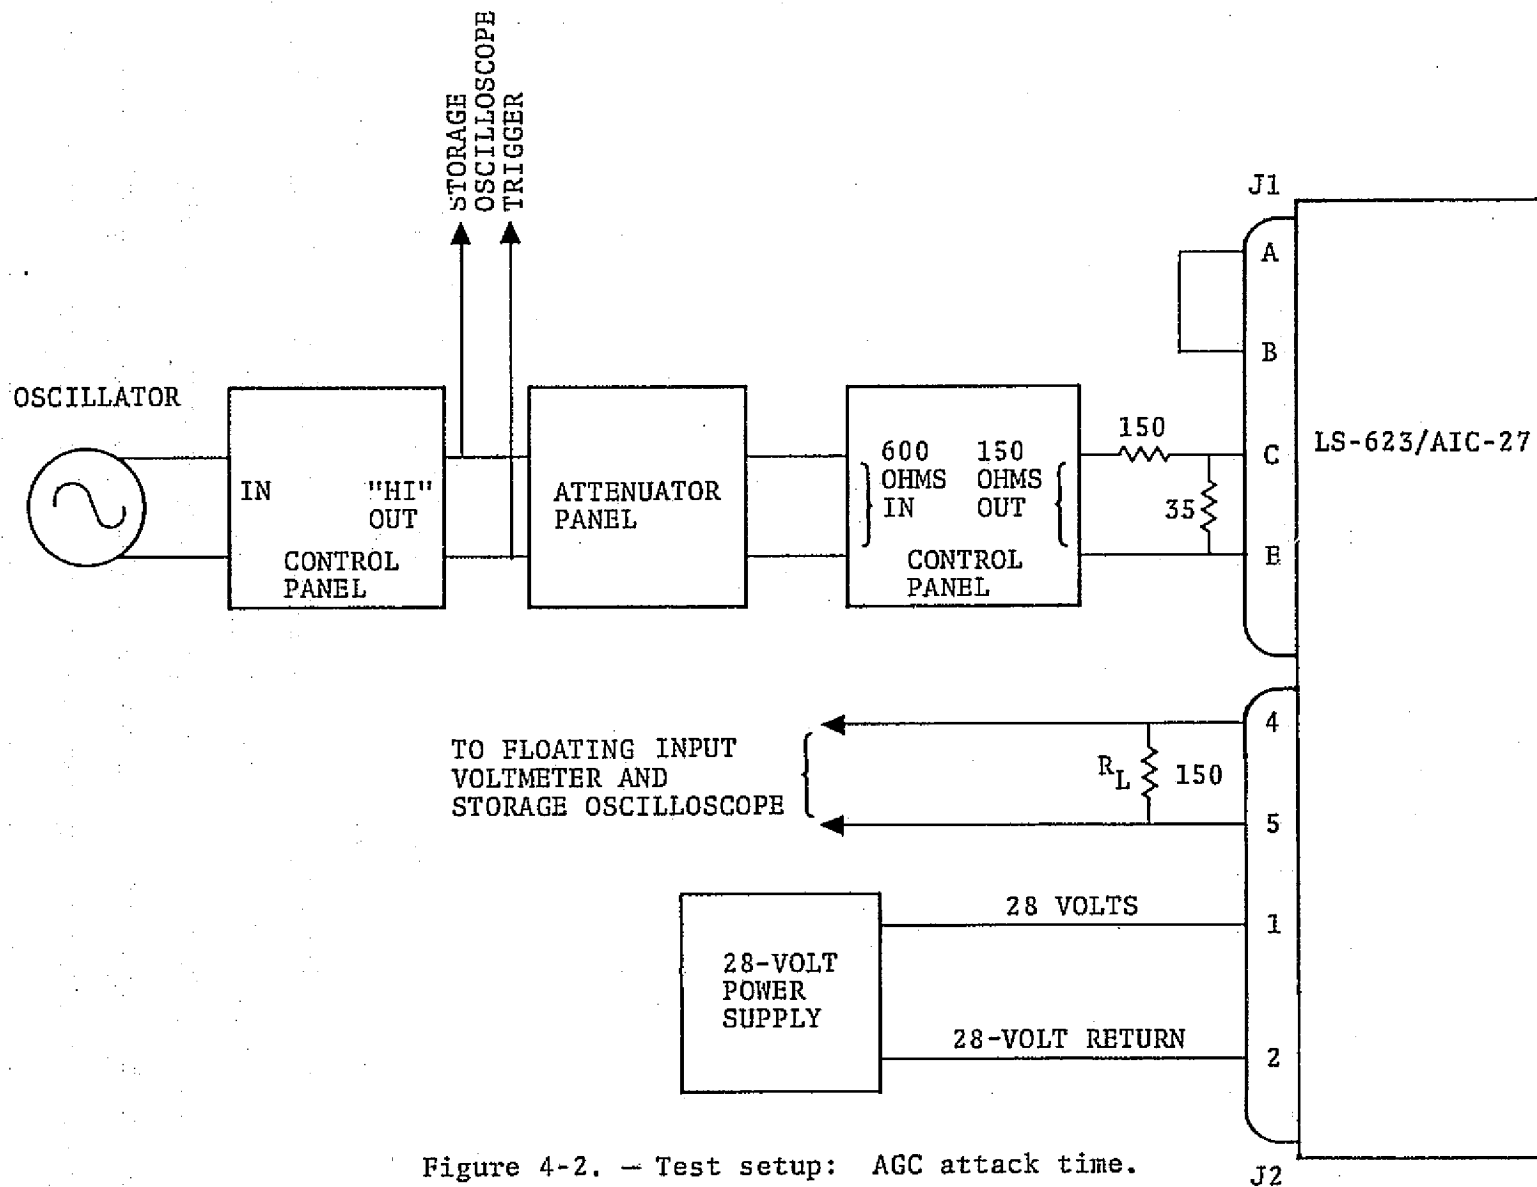

Figure 4-2. — Test setup: AGC attack time.
1. Connect the equipment as shown in figure 4-2.